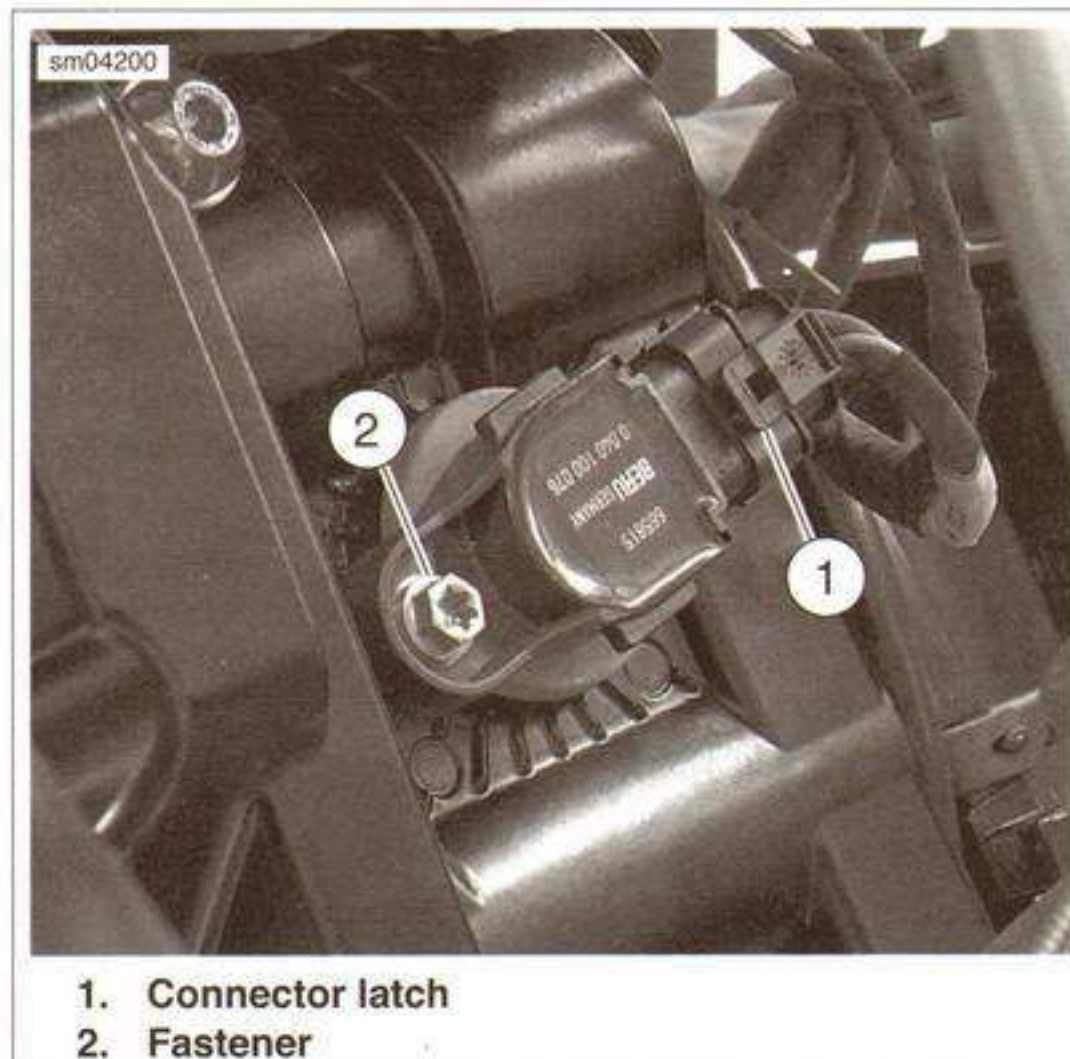

Figure 1-41. Spark Plug Coil
3. See Figure 1-41. Lift the latch (1) on the connectors to the coils and separate the socket housings from the coils.
4. Remove the coil fasteners (2).